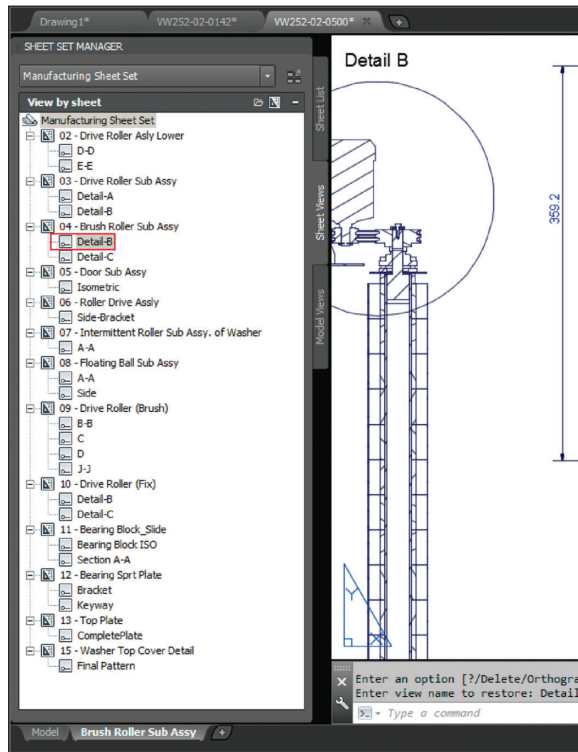

FIGURE 1.8 Selecting a drawing
7. Select Sheet Views on the tabbed interface. Double-click Detail-B under 04 – Brush Roller Sub Assy in the Manufacturing sheet set (see Figure 1.8). A new drawing appears in the drawing window.